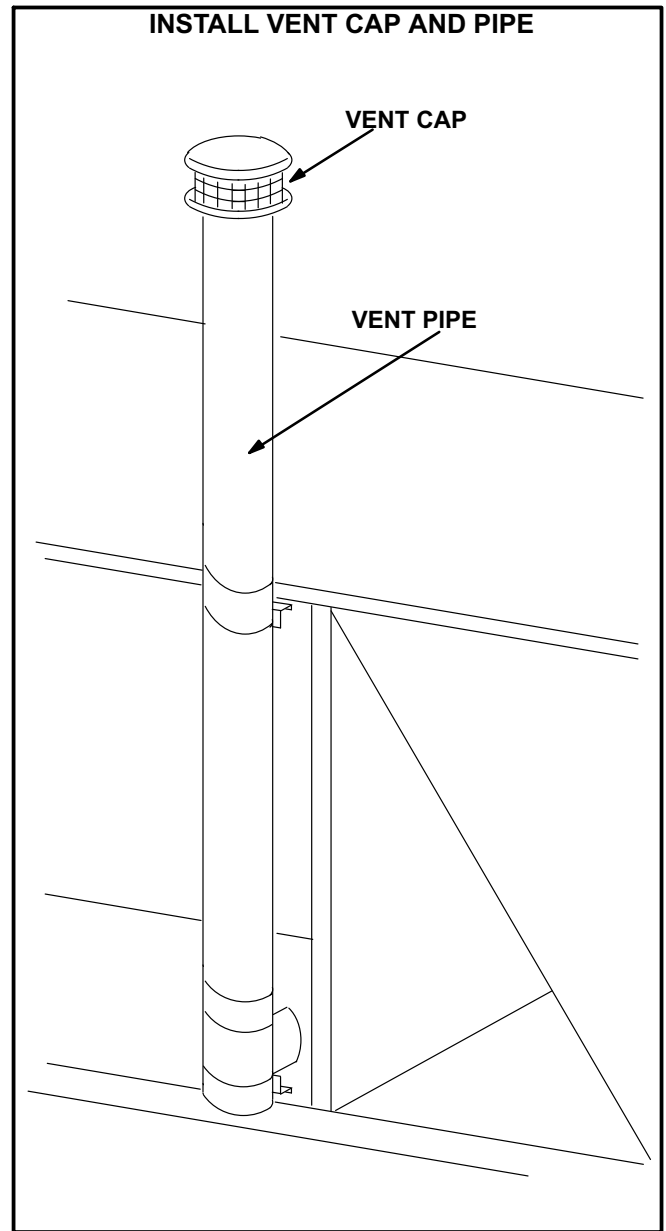

FIGURE 9
- 11- Install field-provided vent cap on the second vent pipe. Secure in place with two screws. Insert the vent pipe into the vent pipe which is already installed on the unit. Secure with two screws. See figure 9.